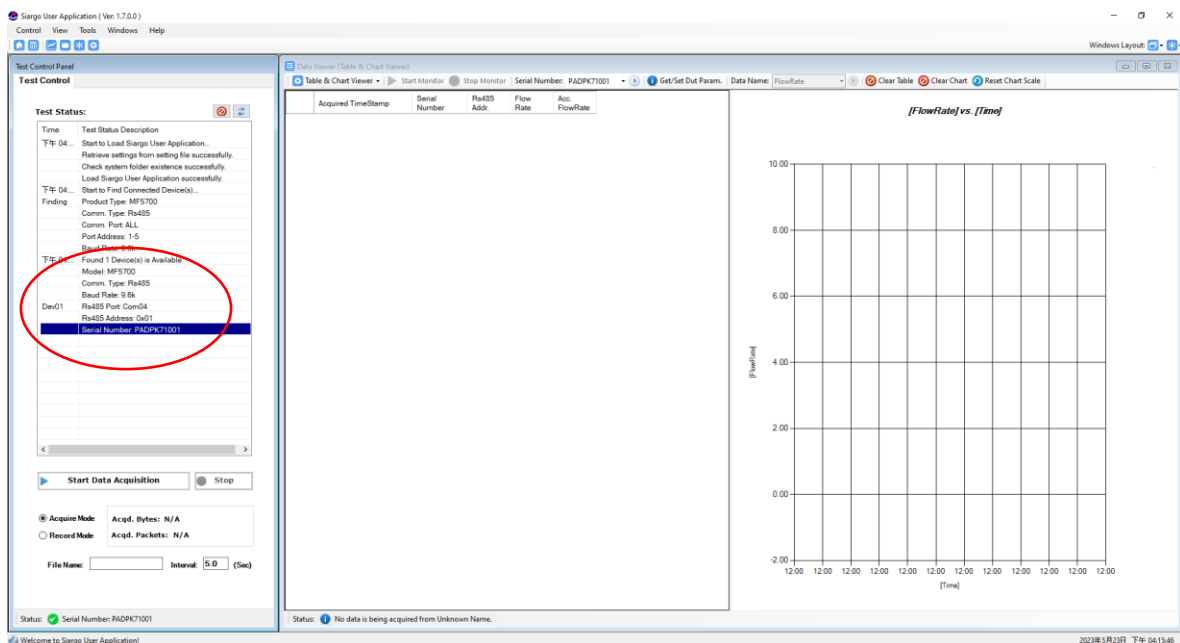

Figure 2
3. Click “Start Evaluation Test” button to start test. If user has working device connect to PC through right converter and set correct settings in App Setting (Step 8), the application may find the connected devices automatically. User may see the found device information in “Test Control” Panel. (See Figure 2)